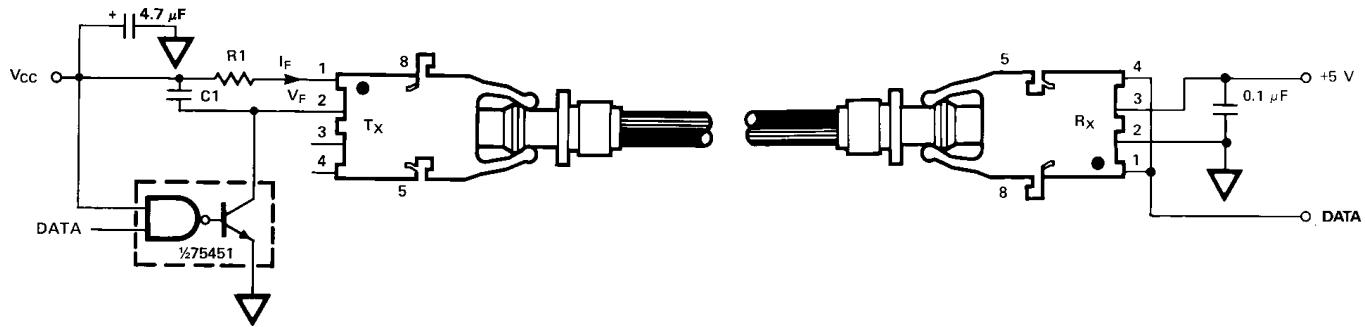

Figure 11. Required 1 MBd Interface Circuit.
3. The LED drive circuit of Figure 11 is required for 1 MBd operation of the HFBR-25X2/25X4.